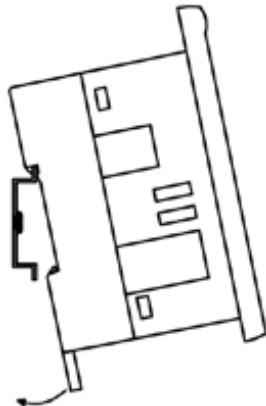

Figure B-10. Remote Relay DIN-Rail Mounting
1. Snap the remote relay module onto the DIN rail as shown in Figure B-10.